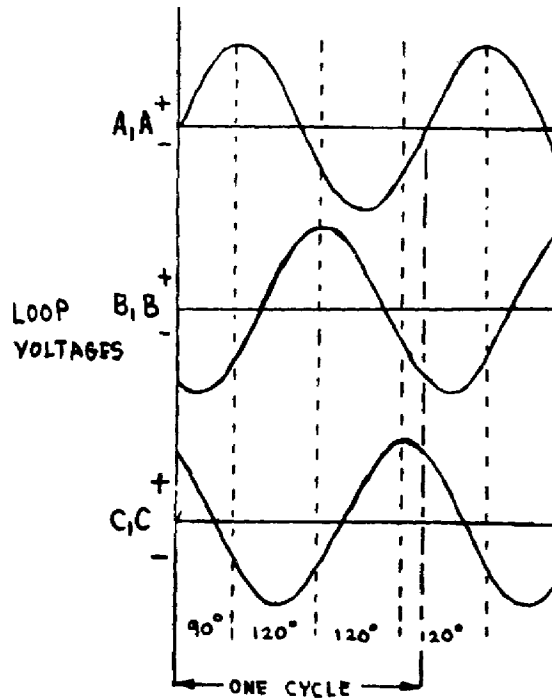

Figure 24. Three-phase loop voltage.
b. With the S pole of the rotor directly under the A conductor the voltage at A will be maximum in magnitude and positive in polarity. After the rotor has turned through  $120^\circ$ , the S pole will be directly under the B conductor and the voltage at B will be maximum positive. Similarly,  $120^\circ$  later, the voltage at C will be maximum positive. This means that the peak positive voltages at A, B, and C in each loop of wire occur  $120^\circ$  apart. These loop voltage curves are shown in figure 24.